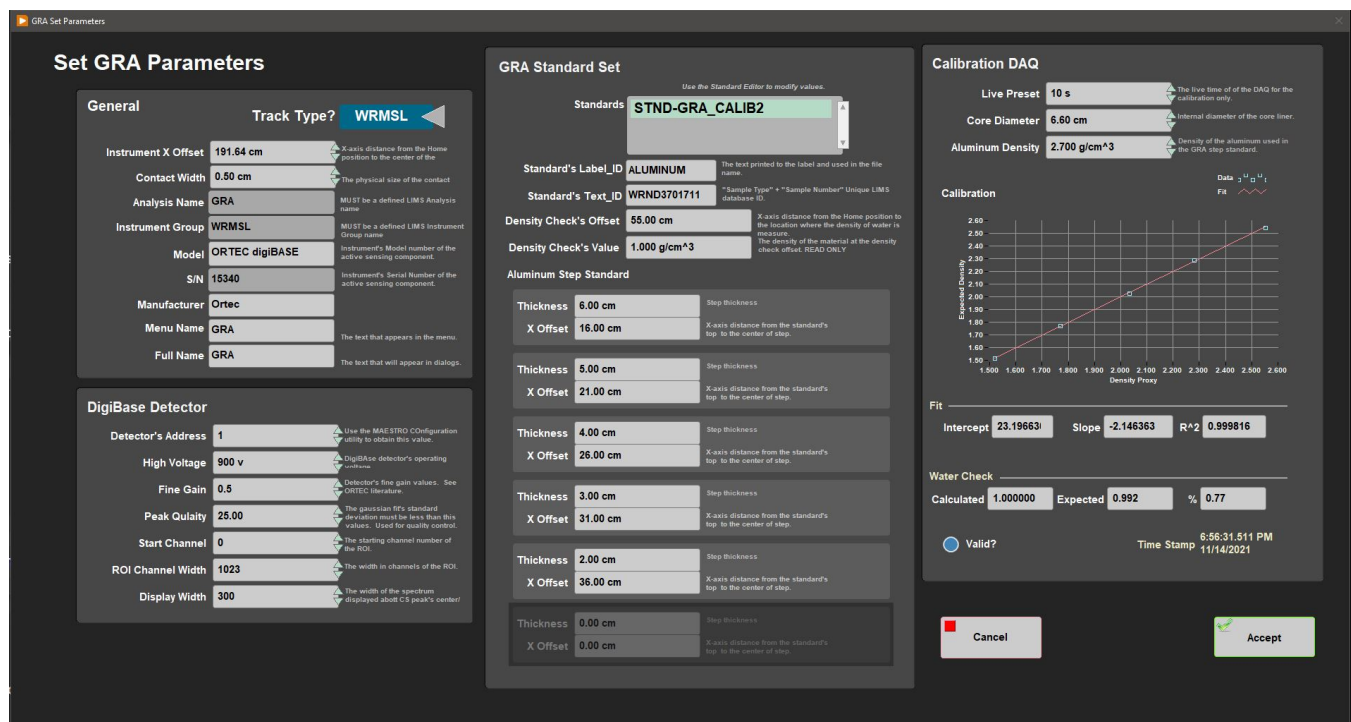

Figure 6. GRA Setup window.
8. Last accepted calibration could be reviewed under **Instruments > GRA: Setup** (Figure 6).